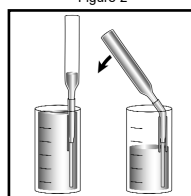

Figure 3
5. Place the VACUette between the vertical tip guides on the inside of the dilutor snapper cup. Snap the ampoule tip. The ampoule will fill leaving a bubble for mixing (fig. 3).